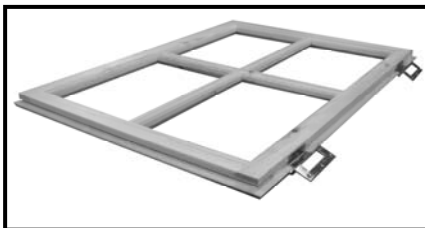

Fig A11– STYLE MAY VARY
20. ( fig. A11 & A12) using the pre drilled holes in the hinge and 3 x 25mm screws. Repeat with the other hinge. And close the hinges together.